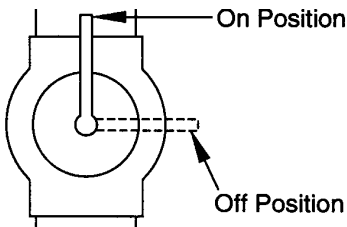

Figure 16 - Equipment Shutoff Valve
- 1. Close equipment shutoff valve (see Figure 16).
- 1. Open equipment shutoff valve (see Figure 16).